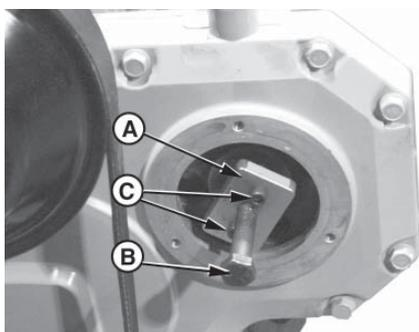

Figure 16. Reproduced by permission of Deere & Company, c2000. Deere & Company. All rights reserved.
6. Attach JDG670A Drive Gear Puller (Figure 16-A) to injection pump drive gear as shown.
7. Evenly tighten the two 6mm, Grade 12.9 screws (threaded in drive gear) and snugly tighten center forcing screw (Figure 16-B) against end of pump shaft.
8. Tighten center forcing screw until pump drive gear is free from tapered shaft. Remove JDG670A puller (Figure 16-A) and screws from drive gear.